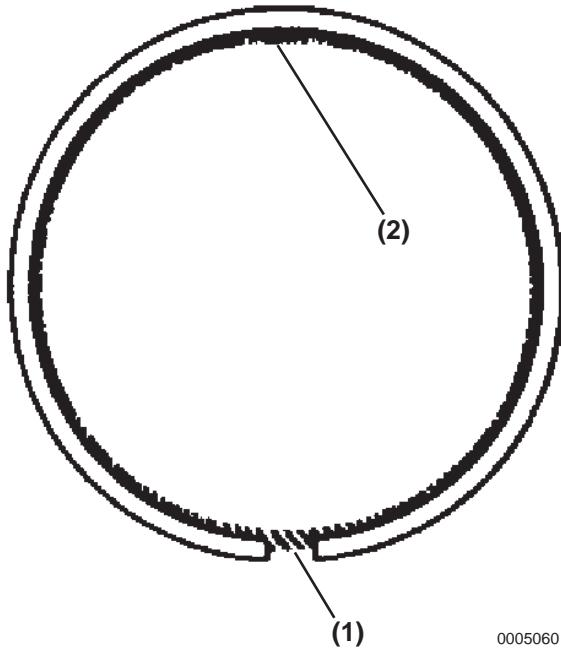

Figure 5-137
7. Using a piston ring expander, install the oil ring with the end gap (**Figure 5-137, (1)**) facing the opposite side of the coil joint (**Figure 5-137, (2)**).